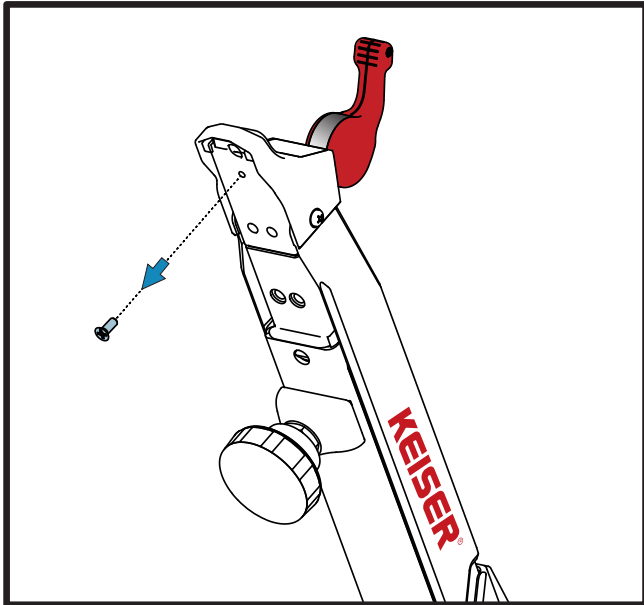

Figure 11. Remove Mounting Screw From Handlebar Tube
1. Use a #2 Phillips screwdriver and remove the computer mounting screw from the handlebar tube, refer to Figure 11.